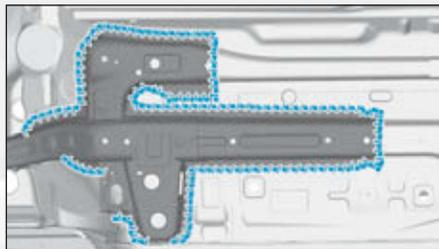

FIG.11
- un mastic d'étanchéité indice "A4" (Fig.11),